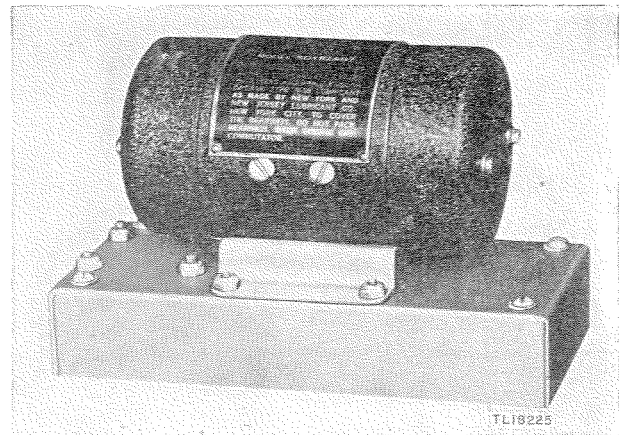
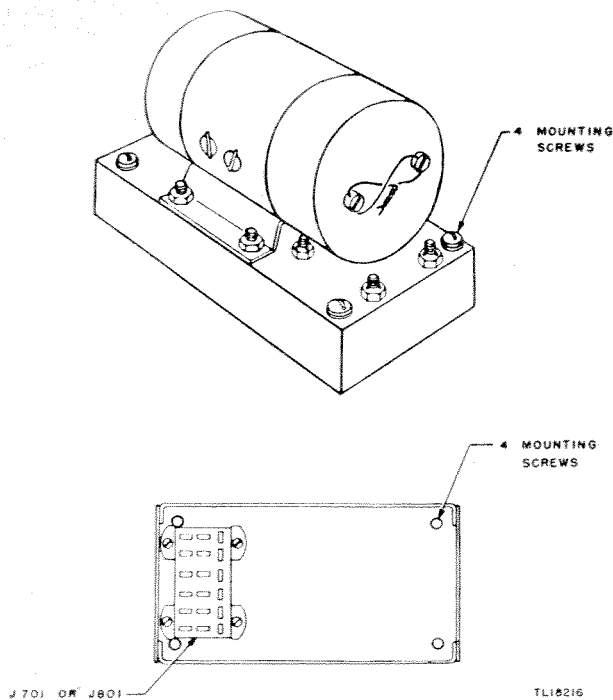

Figure 6. Dynamotor DM-34-(\*) or Dynamotor DM-36-(\*).
Figure 8. Dynamotor DM-34-(\*) or Dynamotor DM-36-(\*)—location of mounting bolts.
b. **DYNAMOTOR REMOVAL.** Release the four mounting bolts in the corners of the dynamotor mounting plate (fig. 8) and lift the dynamotor (figs. 6 and 7) from the receiver.
d. DYNAMOTOR. Replace the dynamotor, making sure dynamotor jack J701 (or J801) mates properly with dynamotor plug PG2 on the receiver chassis. Fasten the dynamotor mounting bolts at the four corners of the dynamotor mounting plate. (See fig. 8.)